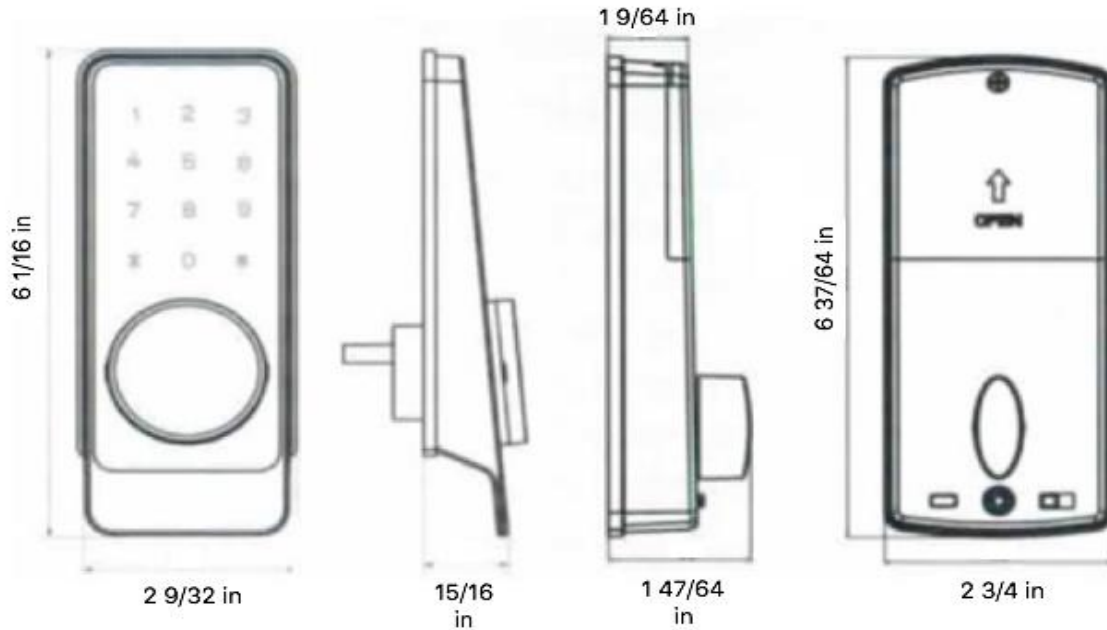

Figure 2: EZYLOCK dimensions
- Press the "button for unlocking" (refer to Figure 2 – item 9) to open the door and confirm smooth movement of the deadbolt in and out of the strike box. If there are any issues such as stiffness or misalignment, adjust it until it operates smoothly.